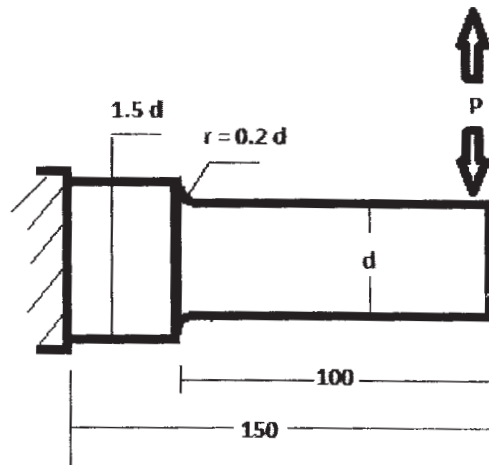

Figure 2
Q5) a) A circular bar of 50 mm diameter is welded to a steel plate by an annular fillet weld as shown in Fig. 2. The force of 5 kN is applied on the bar at a distance 400 mm from the plane of the weld. If the allowable shear stress in the weld material is 94 N/mm² determine the size of the weld. [9]
- b) A cantilever beam made of cold drawn steel 40C8. Ultimate tensile strength 600 N/mm yield strength 380 N/mm² is shown in figure. 2. The force p acting at the free end varies from - 50 N to +150N. The expected reliability